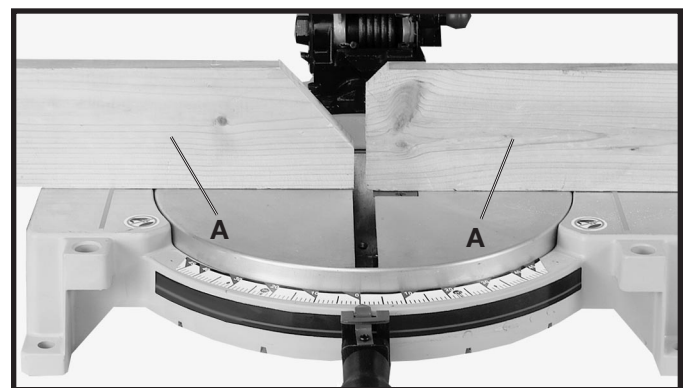

Fig. 32
Holes are provided in the fence to attach an auxiliary fence (A) Fig. 32. This auxiliary fence is constructed of straight wood approximately 1/2" thick by 3" high by 20" long. **NOTE:** The auxiliary fence (A) is used **ONLY** with the saw blade in the 0 degree bevel position (90 degrees to the table). When bevel cutting (blade tilted), the auxiliary fence will have to be removed.